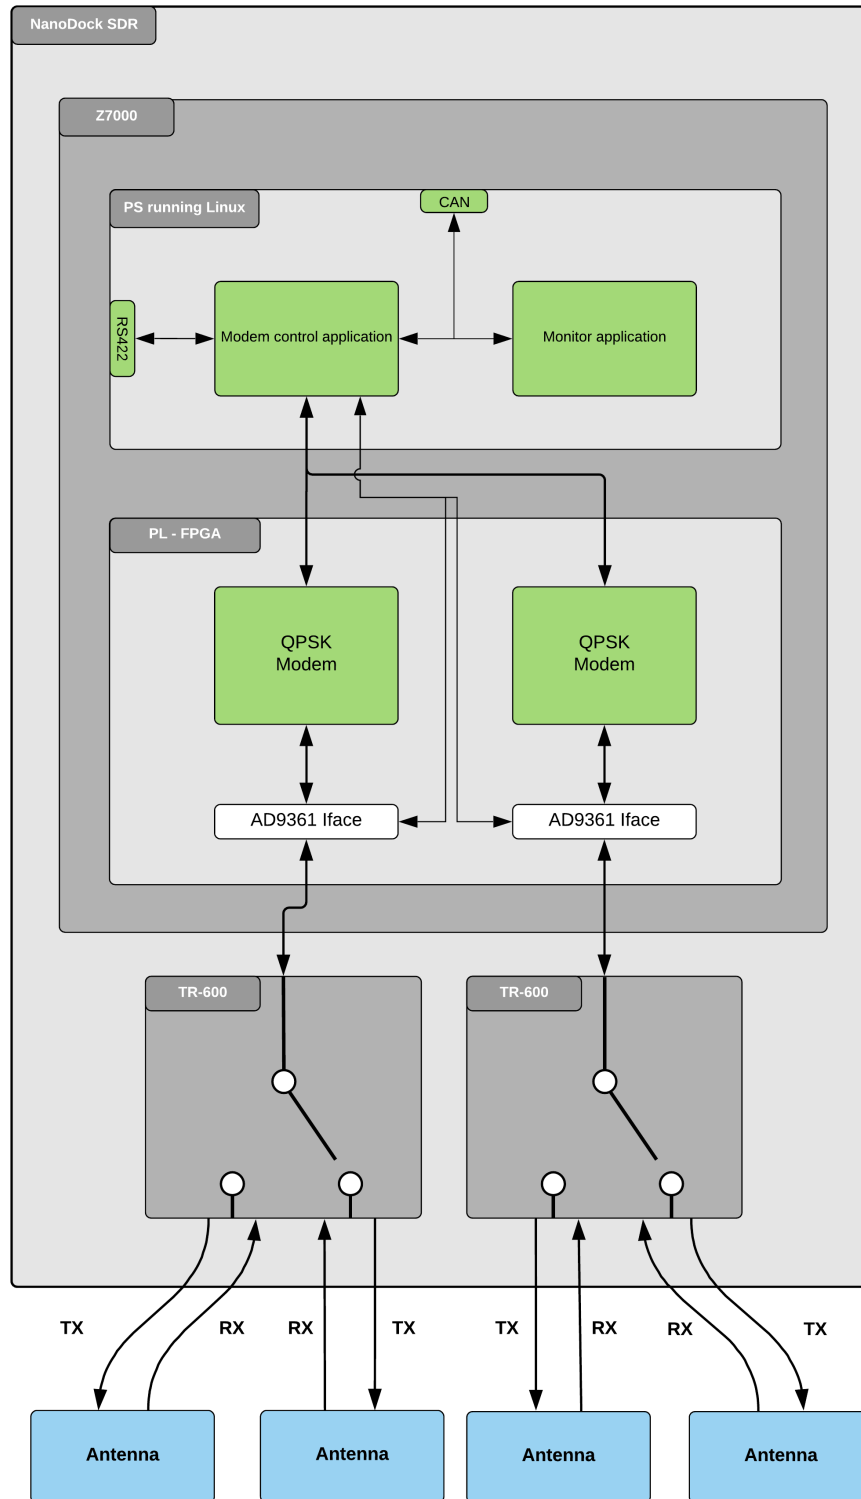

Fig. 1.2: SR2000 block diagram
The two modems reside in the programmable logic (PL) of the Z7000, and data to and from these modems is transferred by DMA. Data and control to/from the TR-600 is transferred through interface logic in the PL. Two antennas may be connected to each TR-600. The modem control application can be used to switch between them - see Fig.1.2.